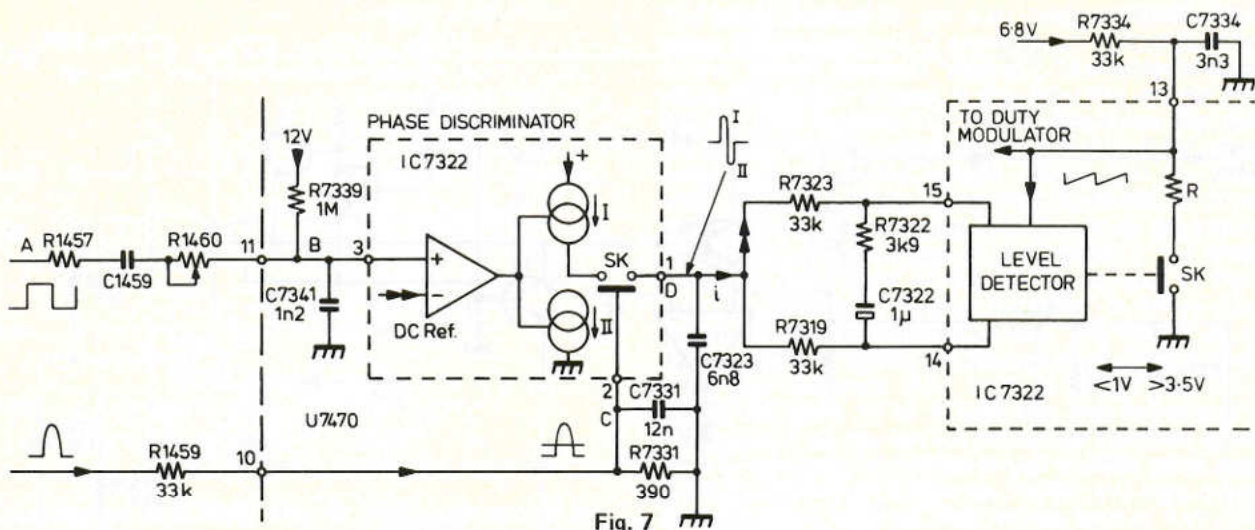

Fig. 7
**e. Sawtooth oscillator and horizontal centering (Fig. 7)**